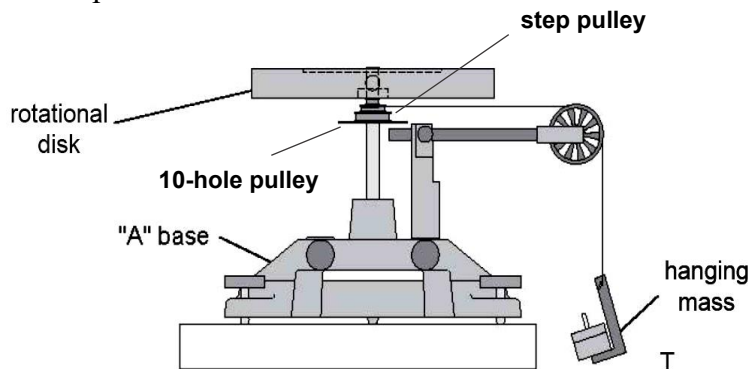
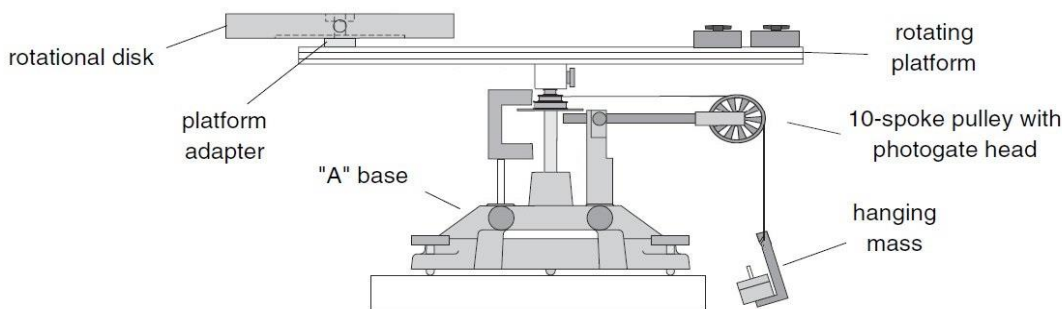

Fig. 4: Moment of inertia of the horizontal disk
Fig. 6: Moment of inertia of the off-axis disk
- (1) Download the software needed for this experiment in advance
- (2) Make a flowchart of this experiment and answer the questions
- (ii) As described in the theory section, to obtain the moment of inertia of an object, its angular acceleration α under a fixed torque, is measured. Specifically, the Arduino Mega Case is used to store the data obtained by the photogate. Suppose you are asked to conduct an experiment of obtaining the moment of inertia of a Horizontal Disk around its center. The experimental setup is as Fig. 4 shows, and the data collected is shown in the table below.
- (a) If the rotational friction occurs and causes an equivalent negative angular acceleration α_F during the experiment, find the moment of inertia of the system by considering α_F . That is, modify eq. (12) with α_F .
- (b) You can see from the table below that the data obtained through the photogate are T_1 and T_2 , which represent the time the infrared beam gets through the 10-hole pulley and the time it gets interrupted by the 10-hole pulley, respectively, as shown by Fig. 6. Also, the average frequency f and the average period T of the rotation within the time range from T_1 to T_2 , are calculated and given in the table. Draw a graph of f versus $(T_1 + T_2)/2$, and explain how you can obtain the angular acceleration by the slope of the best fitting line. Also, the mass of hanging mass and the diameter of the step pulley wound by the string are $m = 198.61 \text{ g}$ and $D = 1.645 \text{ cm}$. (Hint: $\omega = 2\pi f$)
Remove the track from the Rotating Platform and directly place the disk on the center shaft as shown in Fig. 4. Connect the Photogate/ Pulley System to the Arduino Box that is powered by the computer. Find a way to measure the equivalent negative rotational acceleration caused by the friction. Use anything you need to obtain the moment of inertia of the horizontal disk both experimentally and theoretically, and find the percentage difference between them.
Set up the Rotational Accessory as shown in Fig. 6. Mount the disk with its bearing side up. Use the platform adapter to fasten the disk to the track at a large radius. Connect the Photogate/ Pulley System to the Arduino Box that is powered by the computer. Find a way to measure the equivalent negative rotational acceleration caused by the friction. Use anything you need to obtain its moment of inertia of the off-axis disk both experimentally and theoretically, and find the percentage difference between them.